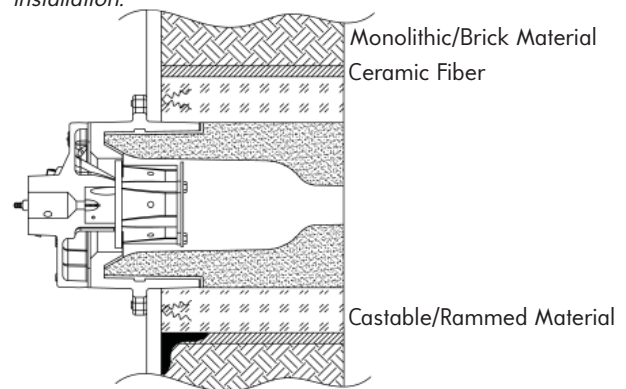

Figure 4: Cross section through a hard wall with square block refractory tile.
1. Cut square opening in furnace shell. Allow ¼" (6) clearance all the way around the tile and jacket.
2. Cut a hole for the burner tile and jacket in fiber wall. The hole should be approximately ½" (13) smaller than the jacket to allow the fiber to be tight up against the jacket.
3. Insert tile with metal jacket into the fiber wall. We suggest a metal jacket around the tile to support the refractory. Do not use a metal jacket for application higher than 1800°F (982°C). For temperatures above 1800°F (982°C), please see Figure 4 for the recommended tile installation.
Square Block Refractory Tile in Brick or Monolithic Wall Installation Instructions (see Figure 4)